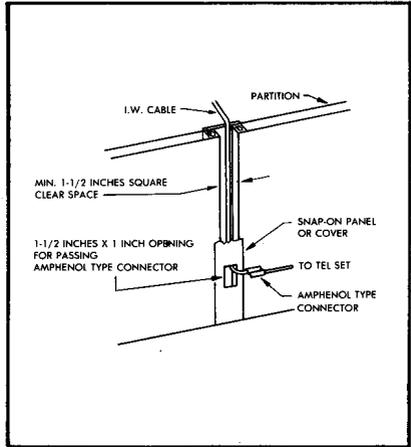

FIGURE 10. Partition Design
- b. 1-1/2 inch square clear space between partition sections with snap-in panel or cover. See Figure 10.